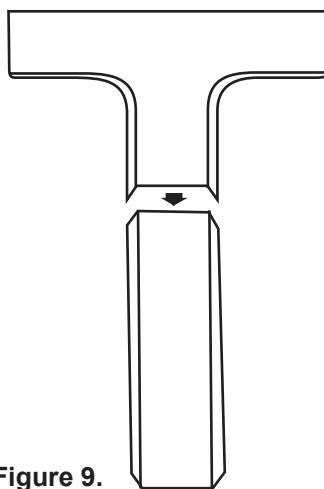

Figure 9.
- The other fittings are inserted into the end of piece of molding, and will have notches on each side where the molding fits. (Figure 9)